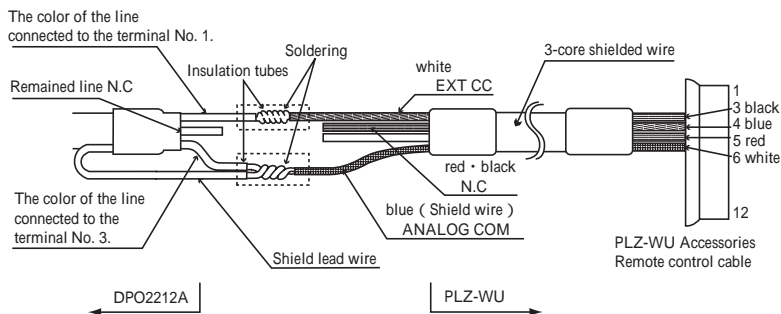

Figure 3-20
- \* Cut the cable end with the shield lead wire of the provided wire kit sample (3-core shielded wire) in DPO2212A, and connect it to the provided control wire kit in PLZ-WU as shown in Fig. 3-20. Insulate the soldered part with an insulation shrinkage tube.